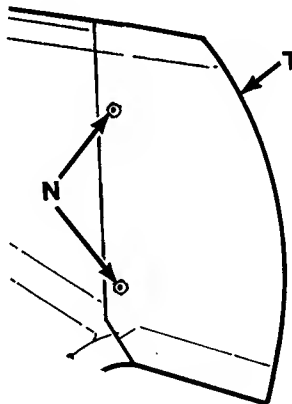

Fig. 11
1. Secure discharge chute (T, Fig. 11) over discharge opening with two 3/8-16 x 3/4 carriage bolts and 3/8-16 top lock nuts (N). Install so the nuts are on top.
4. Position shift quadrant (Q) as shown. Secure with screws (B, Fig. 11).